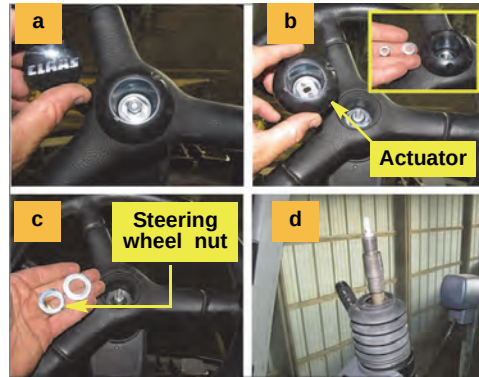

Figure 3 (a-d): Preparing the steering column
- The center cap from the telescoping actuator (Figure 3-a).